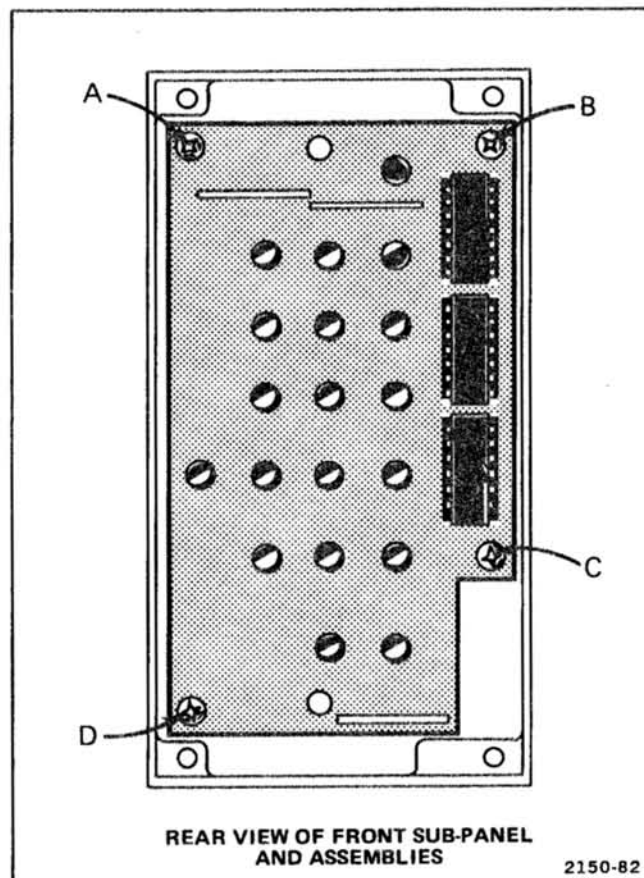

Figure 4-6. Locations of securing screws on A2 Button Lights circuit board.
4. Remove 4 screws (A, B, C, and D on Fig. 4-6) from Button Lights circuit board. Carefully lift board away from sub-panel assembly.